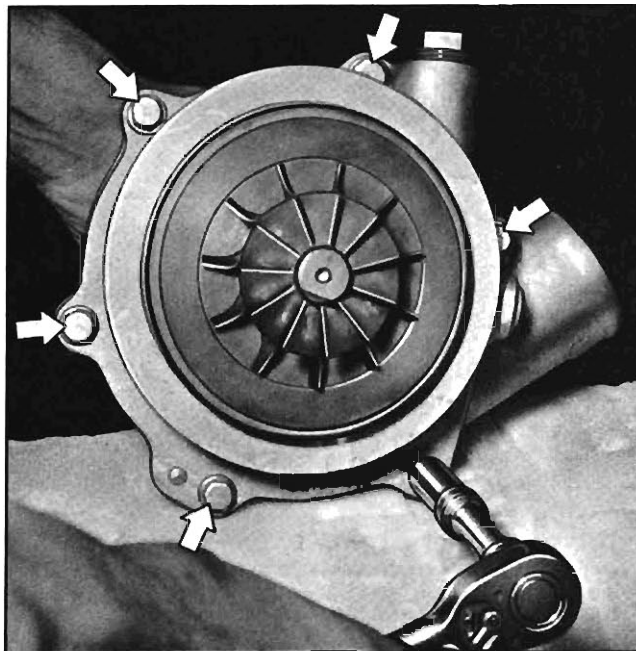

Fig. 31—Compressor Housing Retaining Bolts
5. Remove six retaining bolts (fig. 31) and remove compressor housing and gasket.